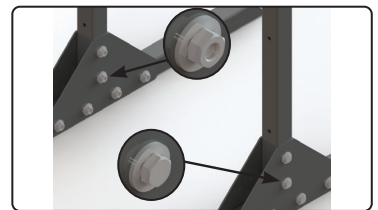
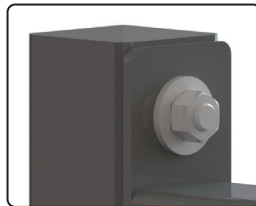

Figure 2 - Installed Base Support
Figure 5 - Installed End Cap
5. Use a 17mm Ratchet/Socket Driver, wrench, and the twelve(12) M10 Hex Bolts with included M10 Washers and M10 Hex Nuts to mount two(2) Base Supports to each Base Foot and Vertical Post assembly. See Figure 2. NOTE: Ensure a M10 Washer is installed between the M10
8. Use a rubber mallet to install the two(2) End Caps on the Vertical Posts. See Figure 5.
5. Use a 17mm Ratchet/Socket Driver, wrench, and the twelve(12) M10 Hex Bolts with included M10 Washers and M10 Hex Nuts to mount two(2) Base Supports to each Base Foot and Vertical Post assembly. See Figure 2. NOTE: Ensure a washer is installed between the bolt and support and between the nut and support. It is considered best practice to install the bolts from the outside in, with the nuts on the interior of the rack.
6. Remove the two(2) M10 Hex Nuts and M10 Washers attaching the Upper Beam to the installed rack. Then use a 17mm Ratchet or Socket Driver and wrench and the those two(2) M10 Hex Nuts and M10 Washers and two(2) M10 Hex Bolts with included washers and nuts from the Extension Rack kit to mount the beam marked "UPPER" to the Extension Rack and installed rack base and post assembly.
7. Remove the two(2) M10 Hex Nuts and M10 Washers attaching the Lower Beam to the installed rack. Remove the label that corresponds to the appliance that will be mounted from the Extension Rack post assembly. Then use a 17mm Ratchet or Socket Driver and wrench and the two(2) removed M10 Hex Nuts and M10 Washers and two(2) M10 Hex Bolts with included M10 Washers and M10 Nuts from the Extension Rack kit to mount the beam marked "LOWER" to the Extension Rack and installed rack base and post assembly. NOTE: Ensure the lower beam is mounted in the proper location for the appliance to be installed to the rack. Failure to do so will result in wasted time.
8. Use a rubber mallet to install the end cap on the vertical post. See Figure 5. If installing a single Extension Rack, rack installation is complete. See Figure 6. Ensure all nuts and bolts and screws are tightened.